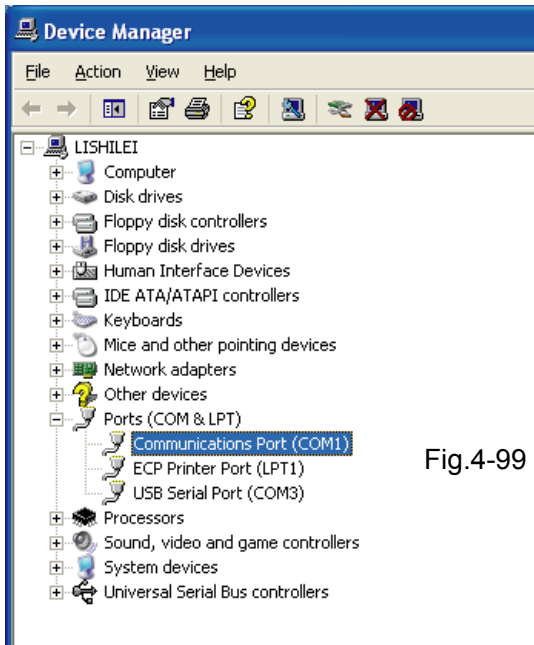

Fig.4-99
3、The window “Device Manager” will be showed up after clicking the “Device Manager, as Fig. 4-99.